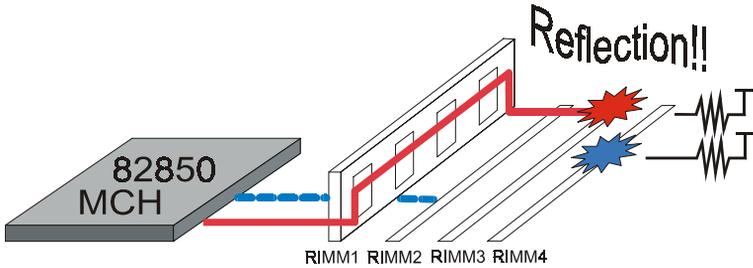
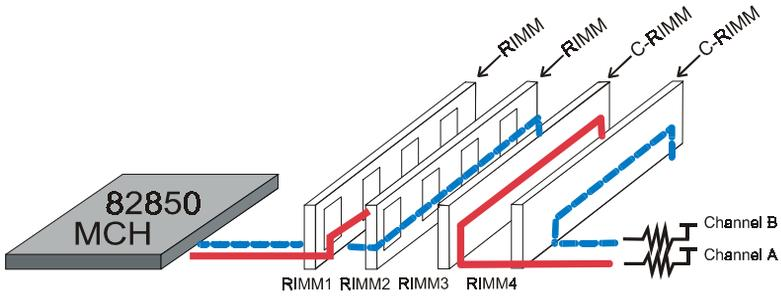

Figure 12: Wrong Configuration
Figure 14-1: Right Base Configuration
The board supports two channels (4) 184-pin RIMMs (Rambus Interface Memory Module) as shown in Figure 10. The RIMMs can be RIMM and C-RIMM (Continuity RIMM) only. RIMM modules have Rambus channel signals as their memory interface. A RIMM module may contain up to a maximum of 16 RDRAM devices. All RDRAM devices on a RIMM must have the same timing characteristics. Empty RIMM sockets must be populated with continuity modules (C-RIMM). These modules have no memory on them and are used to propagate the channel to the next RIMM socket. Figure 12, 13, 14 & 15 provide a general diagram of a RIMM module and installations of RIMM/C-RIMM modules. **The board must be populated 4 RIMM modules at the same time, that will boot-up the system.**
This section describes some basic RIMM/C-RIMM installations as described in table 3. Note that continuity Modules are required in empty sockets. Figure 14-1, 14-2 and 15 display common installations including examples of incorrect (see figure 12, 13-1, 13-2). RIMM or RDRAM signals are daisy-chained through each device on RIMM and memory module.